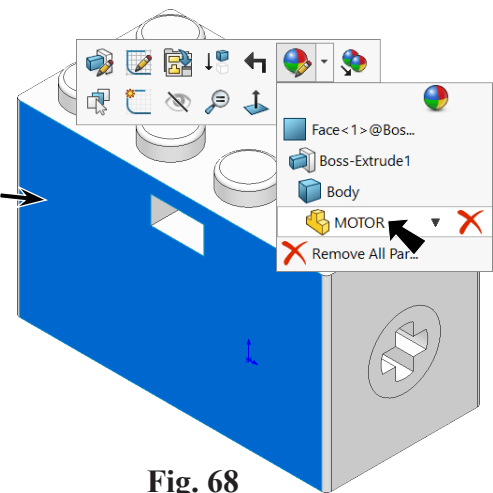

Fig. 68
**Callout**  on the context toolbar and click **Motor** , Fig. 68.